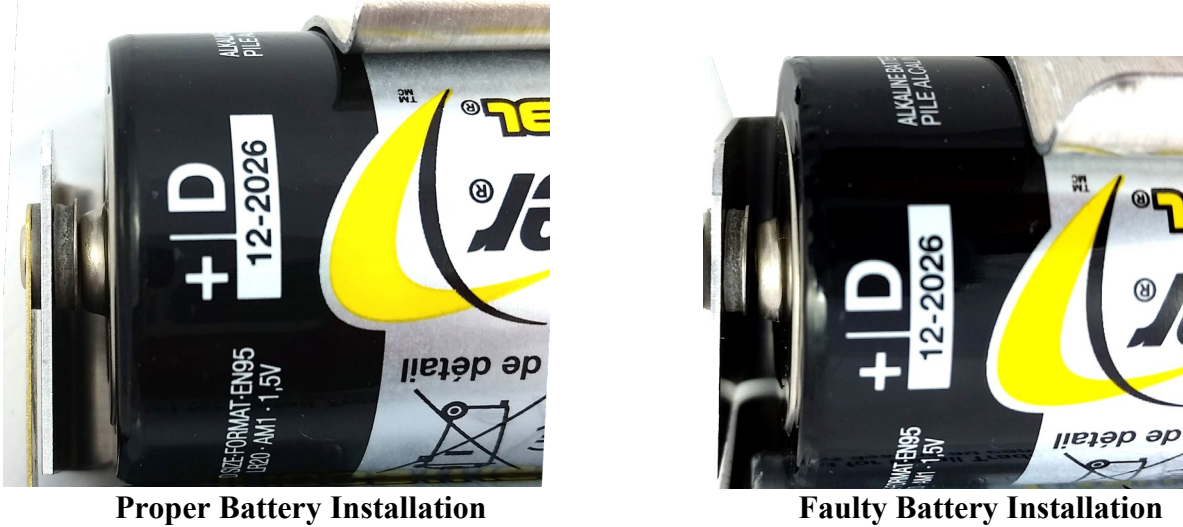

Figure 2 - Battery Installation Detail
Insert four D-cells straight down into the battery holders. Ensure that the polarity of the batteries matches the diagram on the battery holder. Check for secure connection between the battery terminals and holder. If a gap exists, remove batteries and bend the holder sides inward. See Figure 2 below.
- 2) Remove the four batteries from the holders, being careful not to bend the sides outward. Insert the new batteries straight down into the battery holder. Ensure that the polarity of the batteries matches the diagram on the battery holder. Check for secure connection between the battery terminals and holder. If a gap exists, remove batteries and bend the holder sides inward. See Figure 2 below.